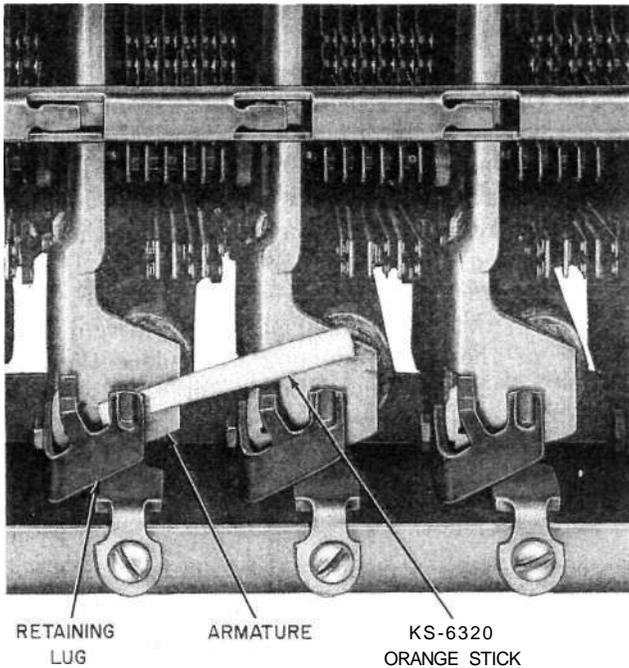

Fig 32—Blocking 324-, 325-, 328-, and 338-Type Switch Holding Magnets - Operated
(2) To block the holding armature operated, insert either the 1-1/2 inch length of orange stick (see Fig. 32) or the 768A blocking tool between the armature and the armature backstop. If the orange stick is used, insert the flat part of the orange stick between the armature and the backstop' with the orange stick at an angle of approximately 45 degrees to the right.
- (2) To block the holding armature operated, insert the 768A blocking tool between the armature and the backstop, similar to the method used in Fig. 32.